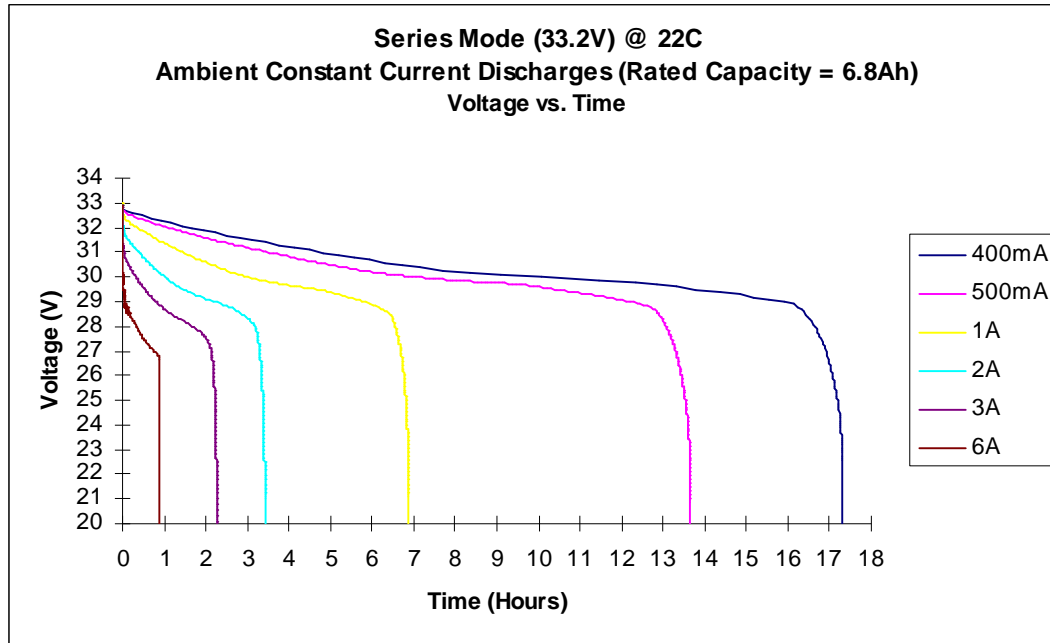

Figure 6
11.4. Series Mode Ambient Constant Current Discharges Voltage –v- Time (Figures 6)